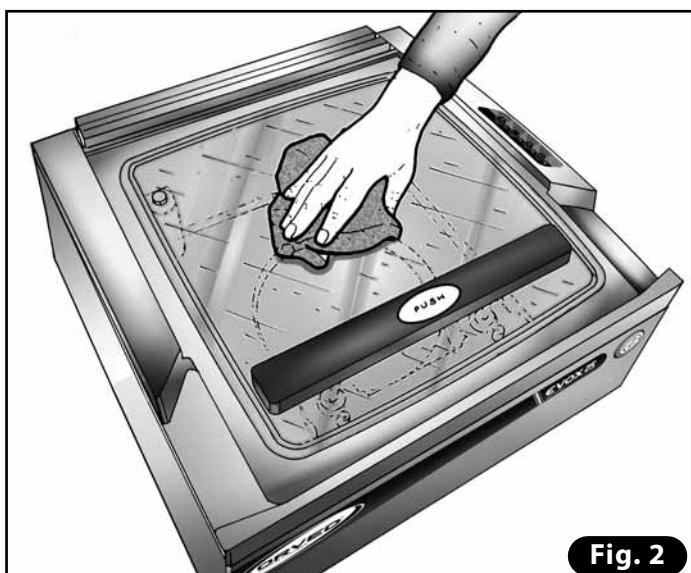

Fig. 2
8.1.4 TEMPERED GLASS LID CLEANING (Fig. 2)